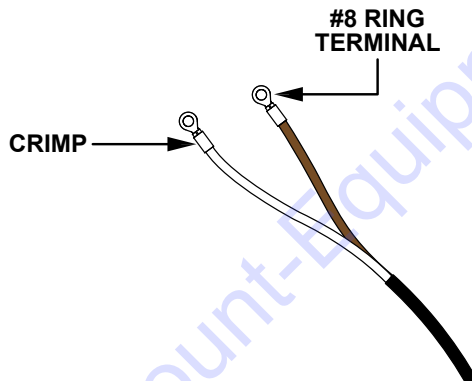

Figure 5. Install Ring Terminals
- Place a new #8 ring terminal (16-14 gauge) onto the stripped end of each of the leads and crimp. See Figure 5.